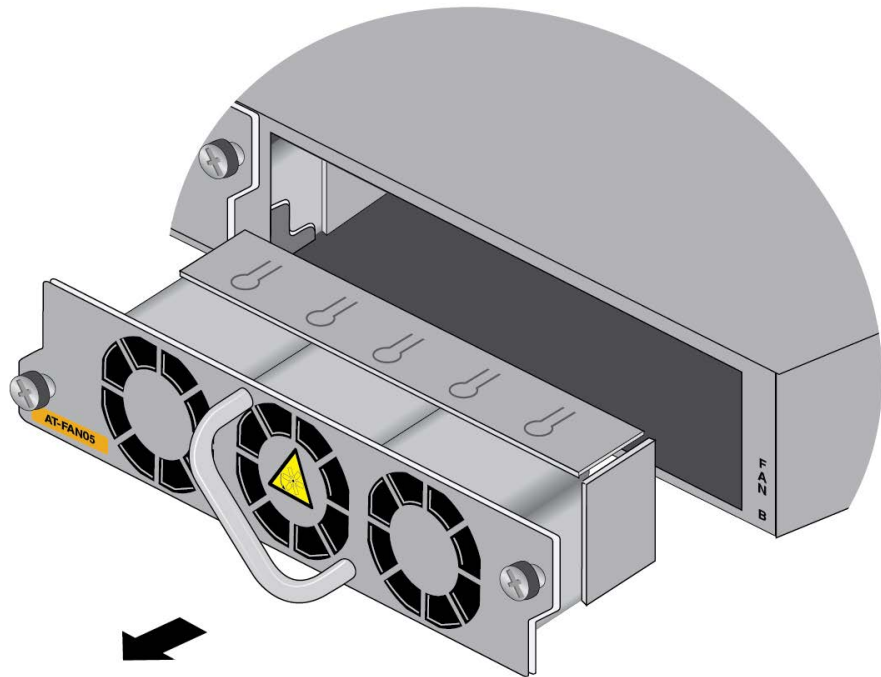

Figure 156. Sliding the Fan Module from the Switch
3. Slide the fan module out of the switch. Refer to Figure 156.